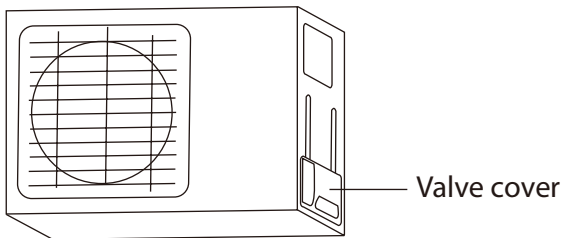

Fig. 2.9
1. Unscrew the cover from the packed valve on the side of the outdoor unit. (See Fig. 2.9 )